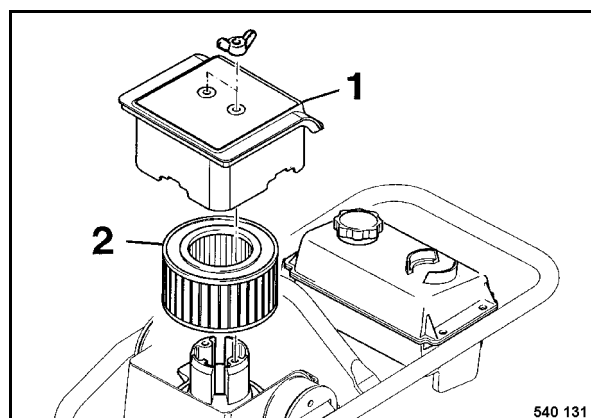

Fig. 59
- Remove cover 1 (Fig. 59), take filter cartridge (2) carefully out.